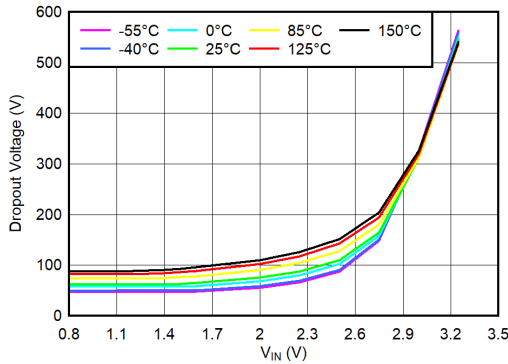

Figure 6-29. V_{IN} Dropout Voltage vs V_{IN} and Temperature (T_J) for $I_{OUT} = 1.5 \text{ A}$
- (1) Adjustable devices tested at 0.8 V; resistor tolerance is not taken into account.
(2) Dropout is defined as the voltage from V_{IN} to V_{OUT} when V_{OUT} is 3% below nominal.
(3) 3.25 V is a test condition of this device and can be adjusted by referring to Figure 6-29.